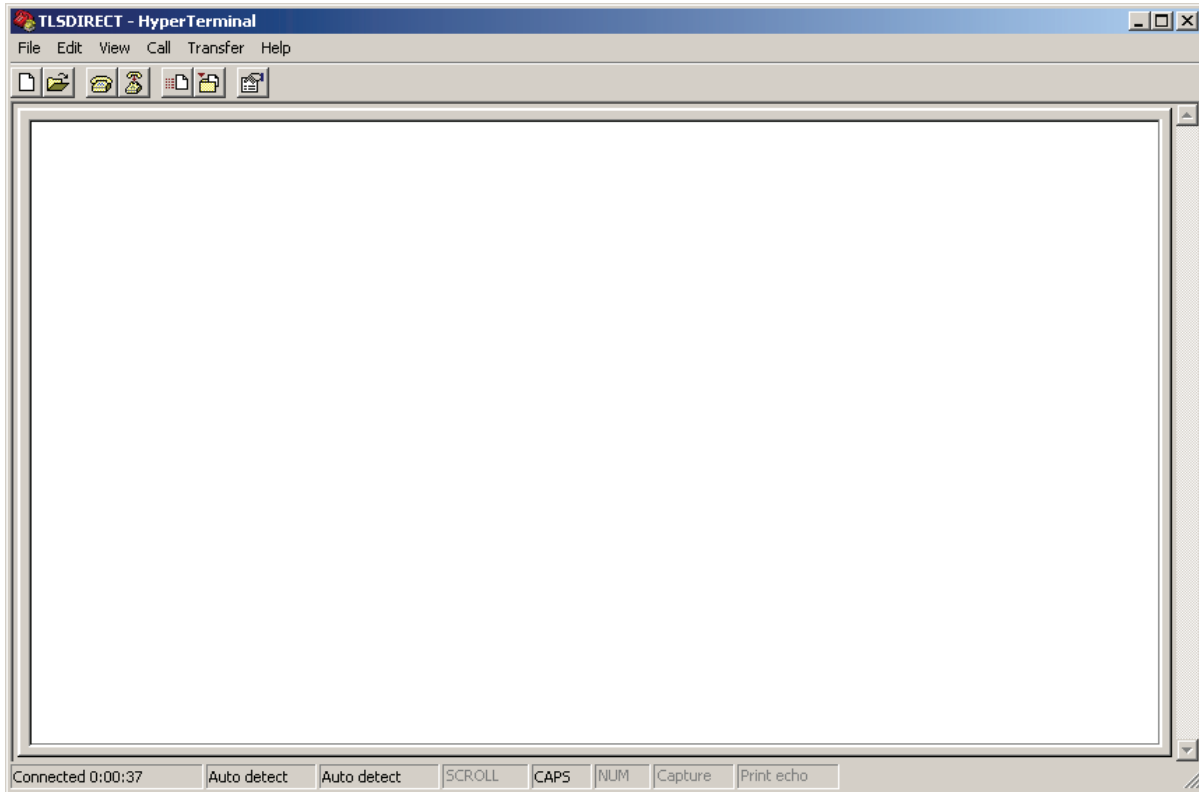

Figure 12. HyperTerminal main window
6. After entering your port settings, the program's main window appears (Figure 12).